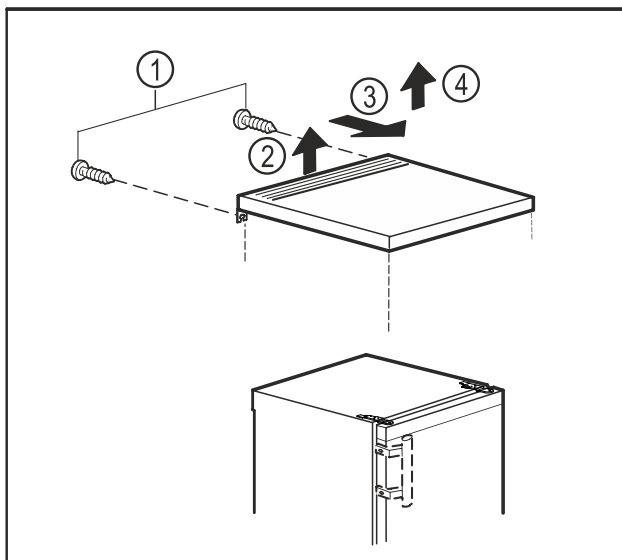

Fig. 6
- Remove the screws on the rear side. Fig. 6 (1)
- Raise the table top at the back. Fig. 6 (2)
- Push the table top forwards. Fig. 6 (3)
- Lift the table top upwards. Fig. 6 (4)